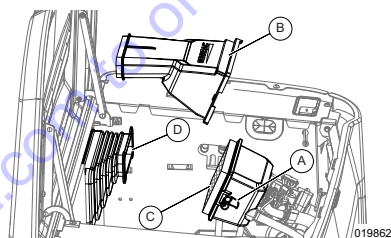
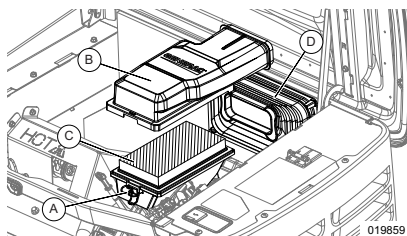

Figure 4-4. Servicing Air Cleaner (10 kW)
Figure 4-5. Servicing Air Cleaner (14–28 kW)
5. See Figure 4-4 or Figure 4-5. Remove cover clips (A) and air cleaner cover (B).